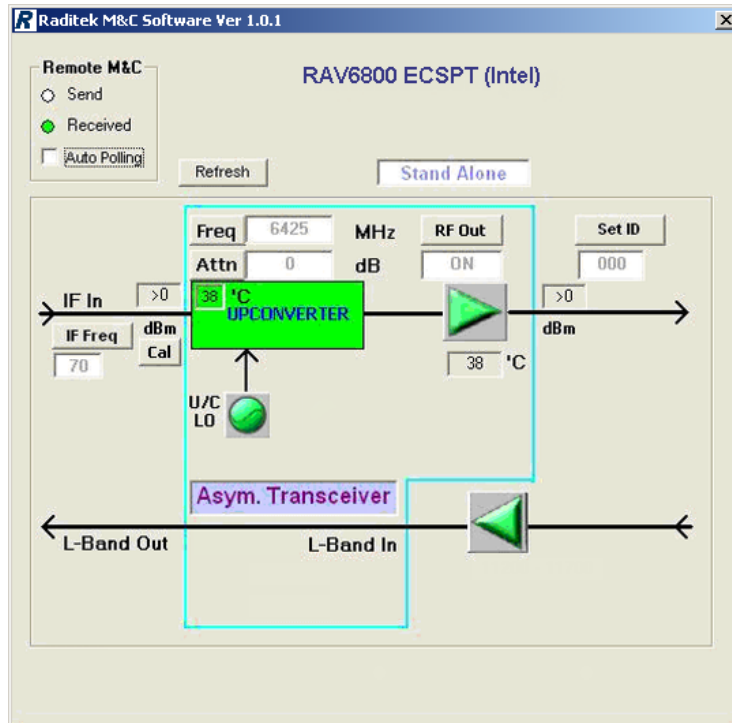

Figure 2-28: Main Display for Asymmetrical EC-SPT
- Figure 2-28 shows sample of Booster with M&C option driven by Ku-SPT